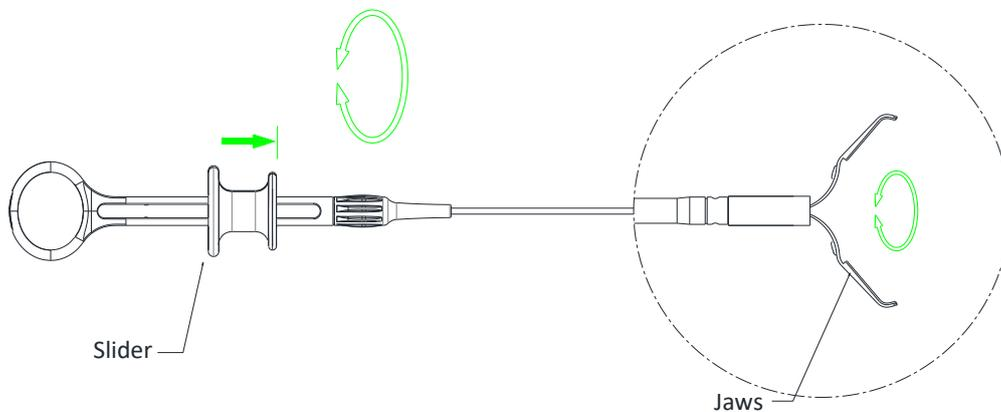

Figure 3: Rotating the Clip
4. To rotate the Rotation Wheel to adjust the angle between the clip and the lesion, until the clip is in the proper position for clipping, as shown in Figure 3.